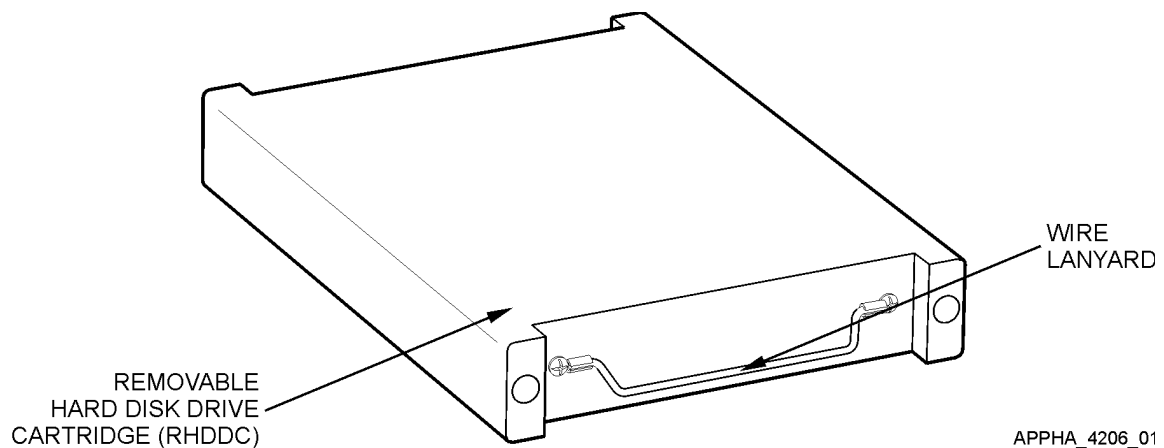
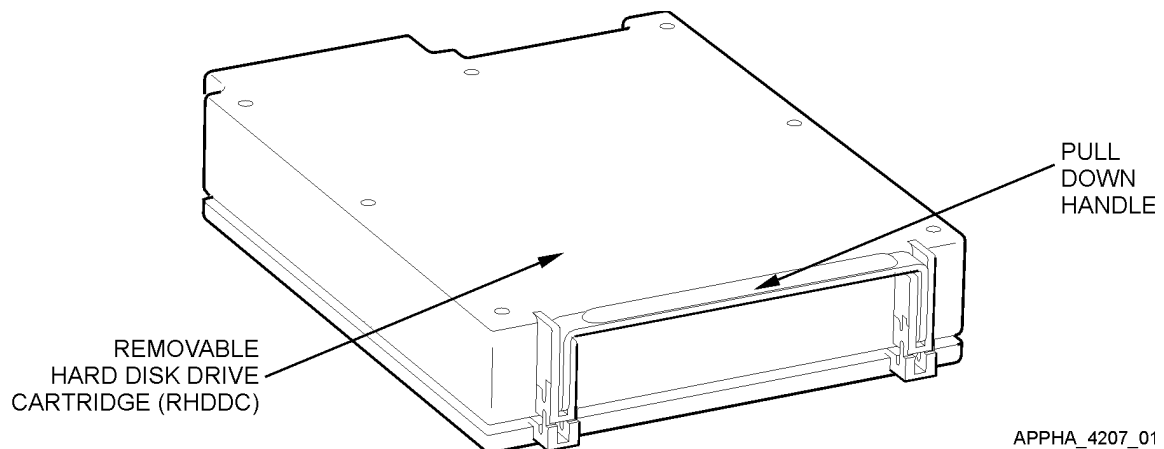

Figure 8 Removable Hard Disk Drive Cartridge (NSN 7025-01-474-5753)
Figure 9 Removable Hard Disk Drive Cartridge (NSN 7025-01-474-3789/NSN 7025-01-487-0580)
The two RHDDC configurations are not interchangeable. Each Processor Unit (PU) configuration has its own unique RHDDC. See Figure 8 and Figure 9. The RHDDC incorporates a non-volatile mass storage device, which inter-operates with its PU. The Hard Disk Drive (HDD) itself has a minimum storage capacity of 6-gigabytes. The HDD is in a protective case, which provides the interface to the PU. The case has a wire lanyard or handle that allows removal of the HDD from the PU. RHDDCs are removable from the PU by hand (i.e., without the use of tools). Refer to WP 0022 00 (Components of End Item (COEI) and Basic Issue Items (BII) Lists) to identify the RHDDC and PU compatibility.